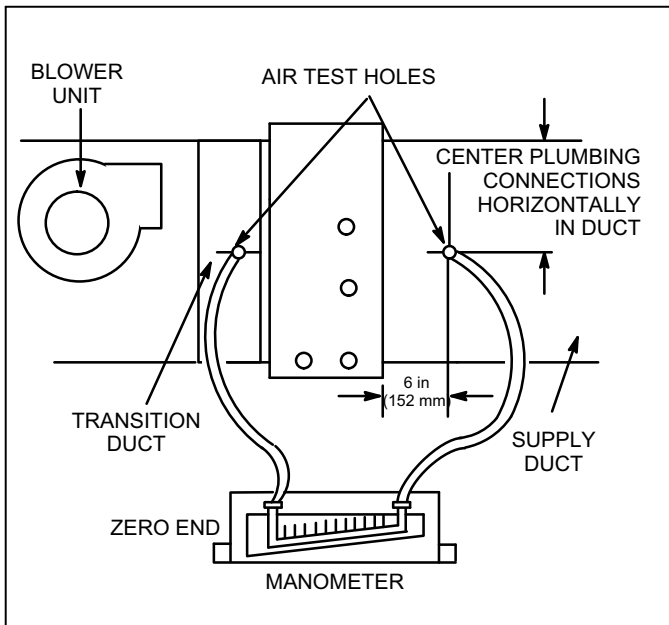

Figure 6. Air Test Hole Locations
1. Drill test holes in supply duct to read pressure drop across CH23 coil. See Figure 6.